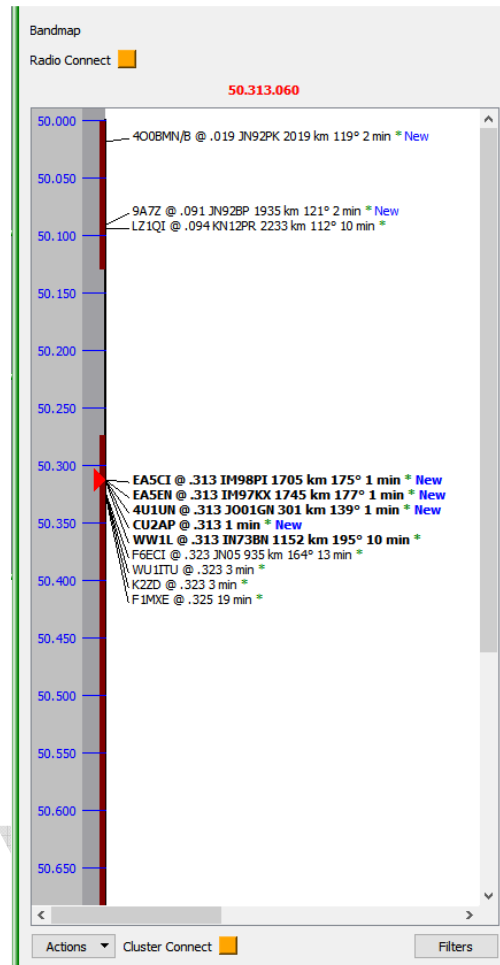

Figure 125 – Bandmap display
An example display is shown in Figure 125. **Beware:** if you don’t see anything, check your filters
- The current rig frequency is indicated by the black 'play' symbol ('dial cursor' on 144.290 in Figure 125). If this symbol turns red it indicates that it is a frequency/mode pairing that does not match the bandplan.
- If the dial cursor is not viewable, click the dial frequency at the top of the panel (144.290 at top of Figure 125) to bring that frequency back into the viewport.